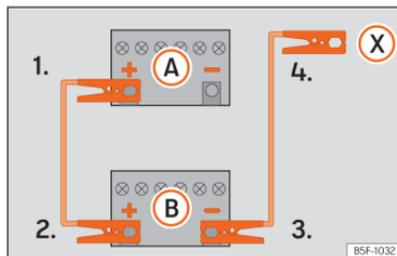

Fig. 162 Diagram of connections for vehicles without Start Stop system
4. *Vehicles without a Start-Stop system:* connect one end of the black jump lead to the negative terminal **-** of the vehicle providing the current **B** »» Fig. 162.